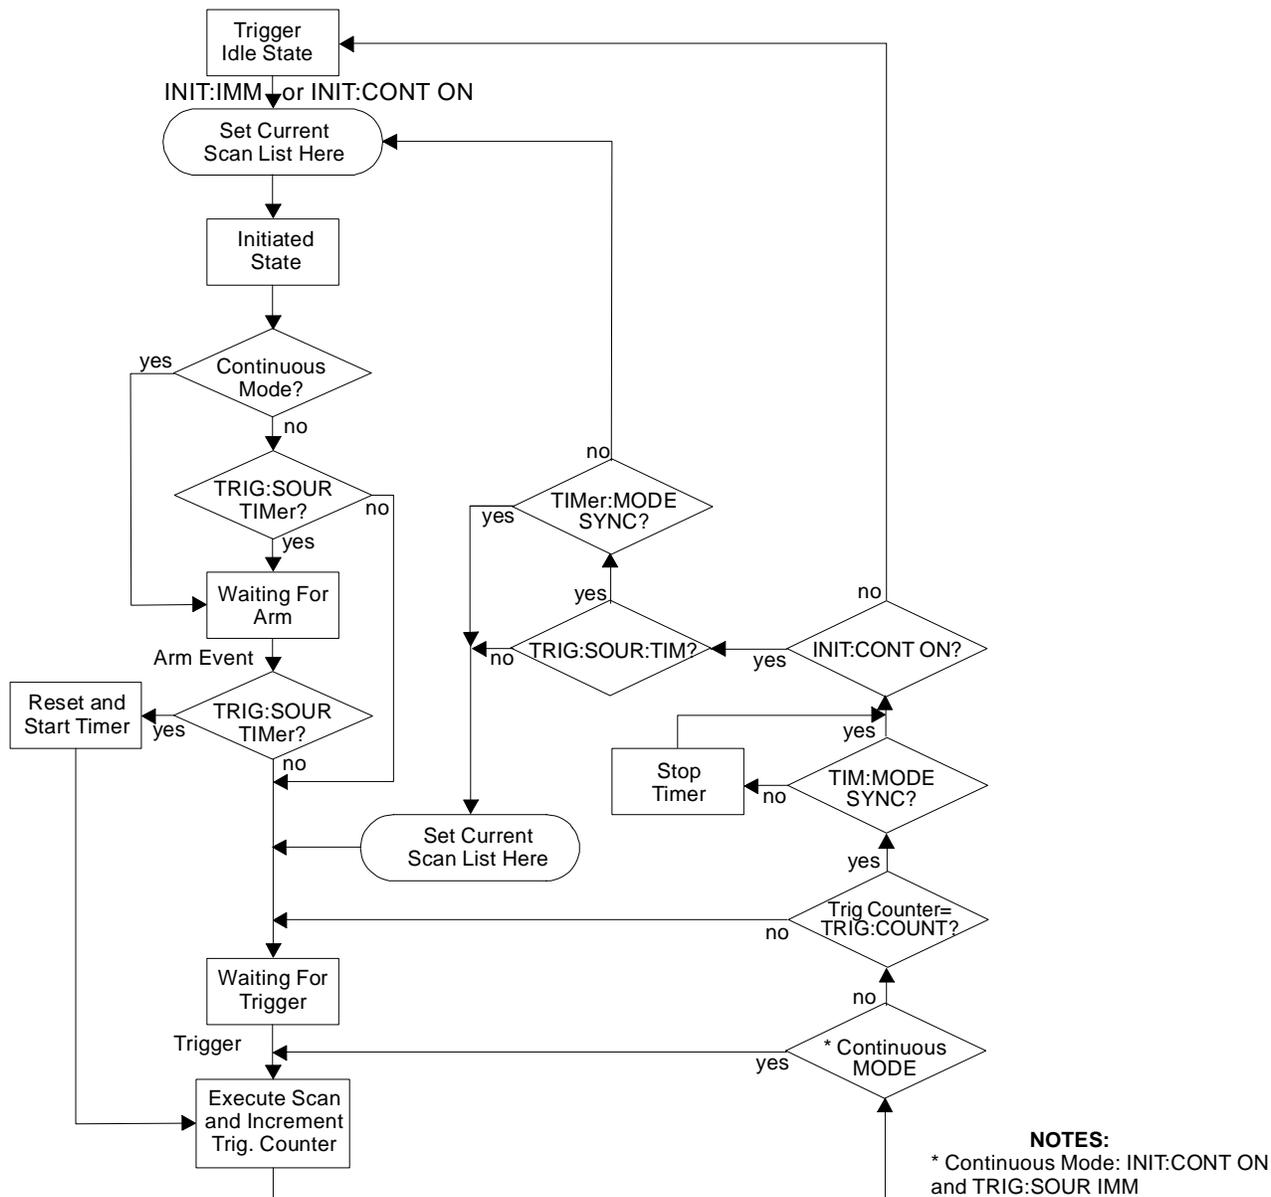

Figure 5-6. Trigger/Scan Sequence Diagram
**Event Sequence** Figure 5-6 shows how the module responds to various trigger/arm configurations.
**TRIGger:COUNT** *<trig\_count>* sets the number of times the module can be triggered before it returns to the Trigger Idle State. The default count is 1 (returns to Idle State after each trigger). See Figure 5-6.